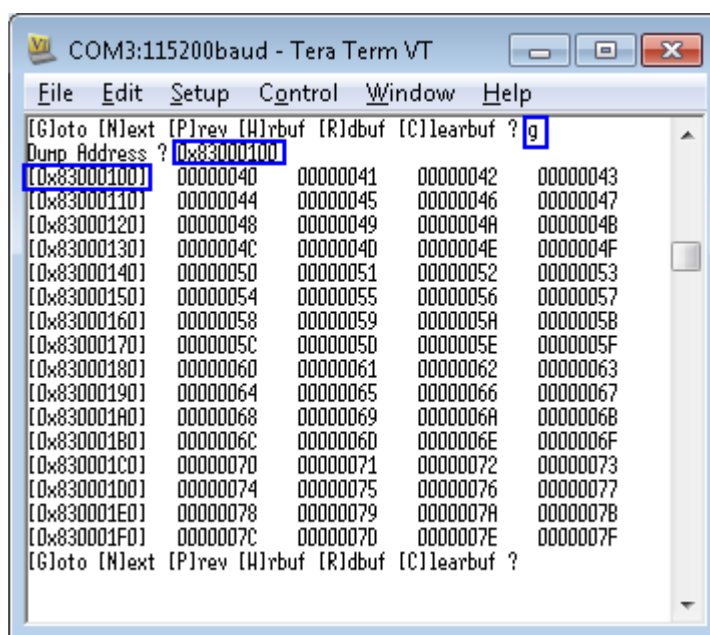

Figure 3-10 Goto submenu example
- 'G': this submenu is used to select the address to read, as shown in Figure 3-10. The address can be input to be hex value by adding prefix "0x", so normally input will be received in decimal value.